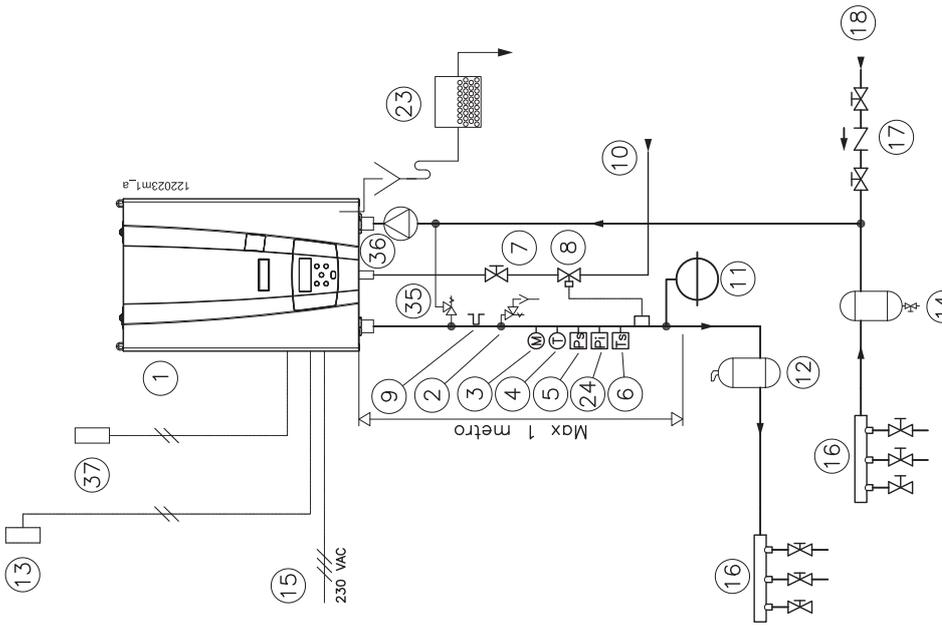
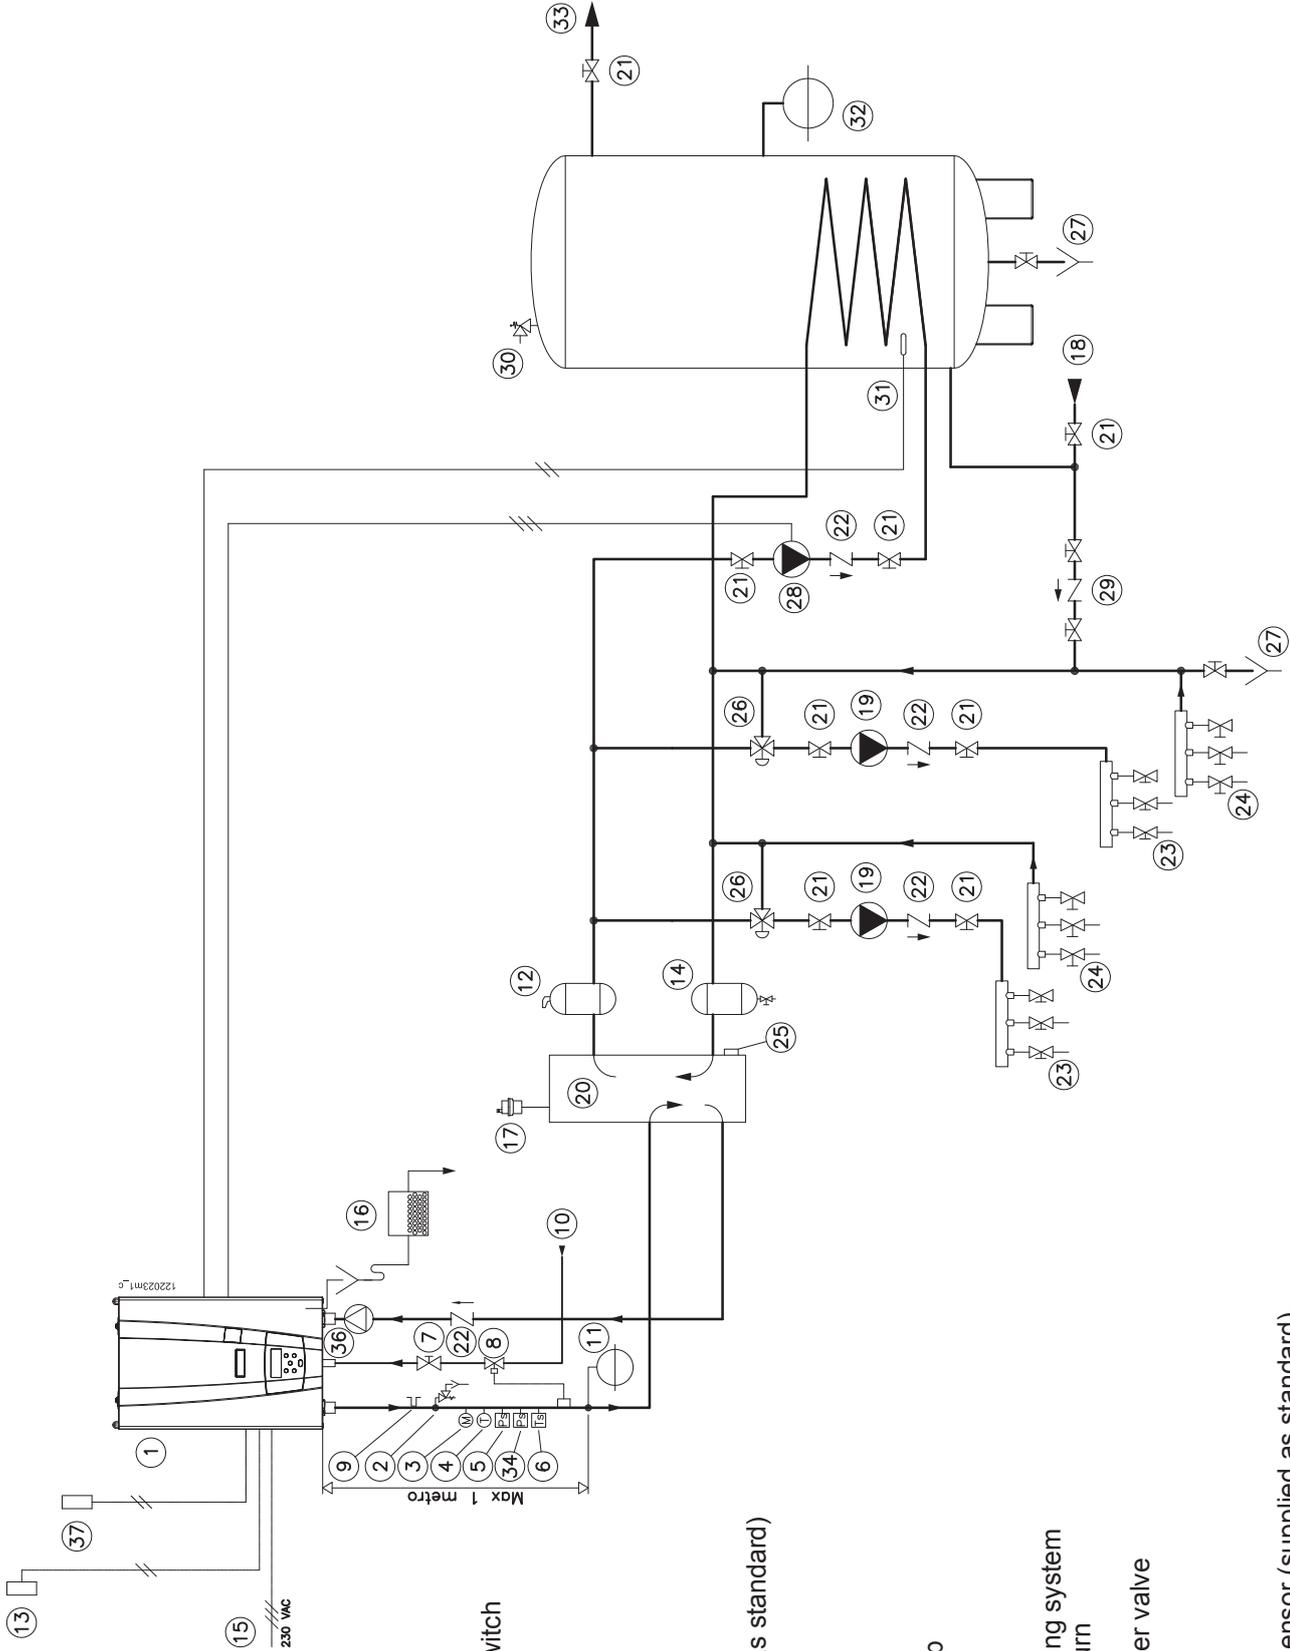

Figure 4-4 - Example of basic connection diagram
Figure 4-6 - Example of connection diagram with hydraulic separator and storage tank
This product is a gas condensing boiler, designed for the production of central heating. It can also be used for the production of domestic hot water but must be connected to an appropriate storage tank (see figure 4-6). Carry out the adjustment between the boiler and the system, bearing in mind the characteristic residual head curve (see fig. 4-2).
The MYDENS 60A boiler is expressly manufactured without an internal pump in order to give the installer the option of being able to connect any modulating pump. The only preventative measure to take is to insert a by-pass valve (see figure 4-4, detail "35") through which, in any operating situation, the boiler is always guaranteed a minimum water circulation of 600 l/h. The characteristic curve of the modulation range of the modulating pump provided by us is shown in figure 4-2.
For the production of domestic hot water a storage tank must be connected following the diagram in figure 4-6. The temperature of the domestic hot water is adjusted following the procedure in section 7.7.
With this boiler you can create a system for central heating only (see figures 4-4 and 4-5) or a system for central heating and the production of domestic hot water (see figure 4-6). In both cases, the central heating system can be at high or low temperature (See section 5.9 for adjusting the boiler).
- KEY to figures 4-4 and 4-5